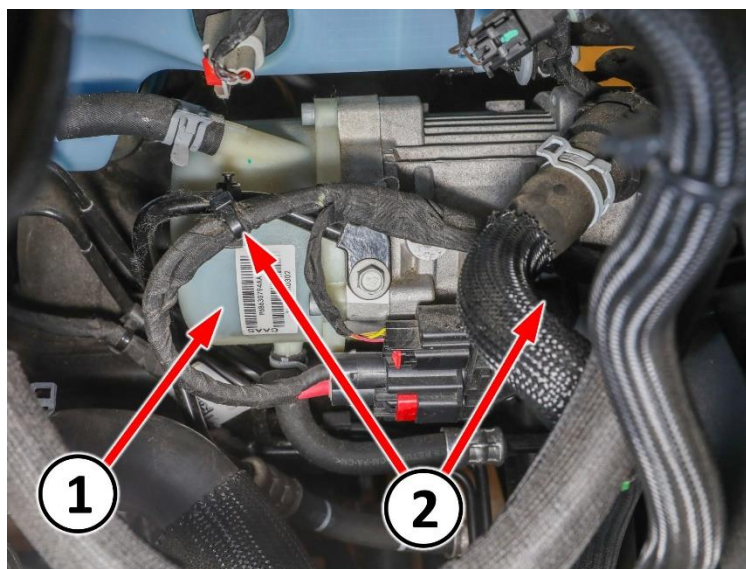

Figure C4 – Power Steering Pump Wire Harness Routing and Clipping
- **NO:** If no issues can be found with EHPS electrical connection, ensure wire harness is routed and secured properly (Figure C4). Reinstall the clean air hose or air cleaner resonator depending on engine.